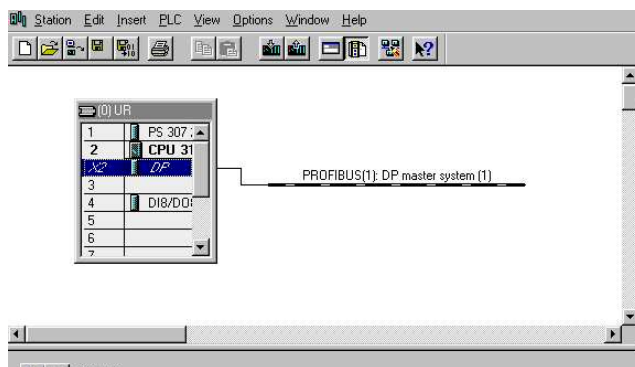

Figure 6-11 Hardware Configuration Screen
19. The Hardware Configuration Screen is displayed with the PROFIBUS configuration that has been selected (see Figure 6-11).